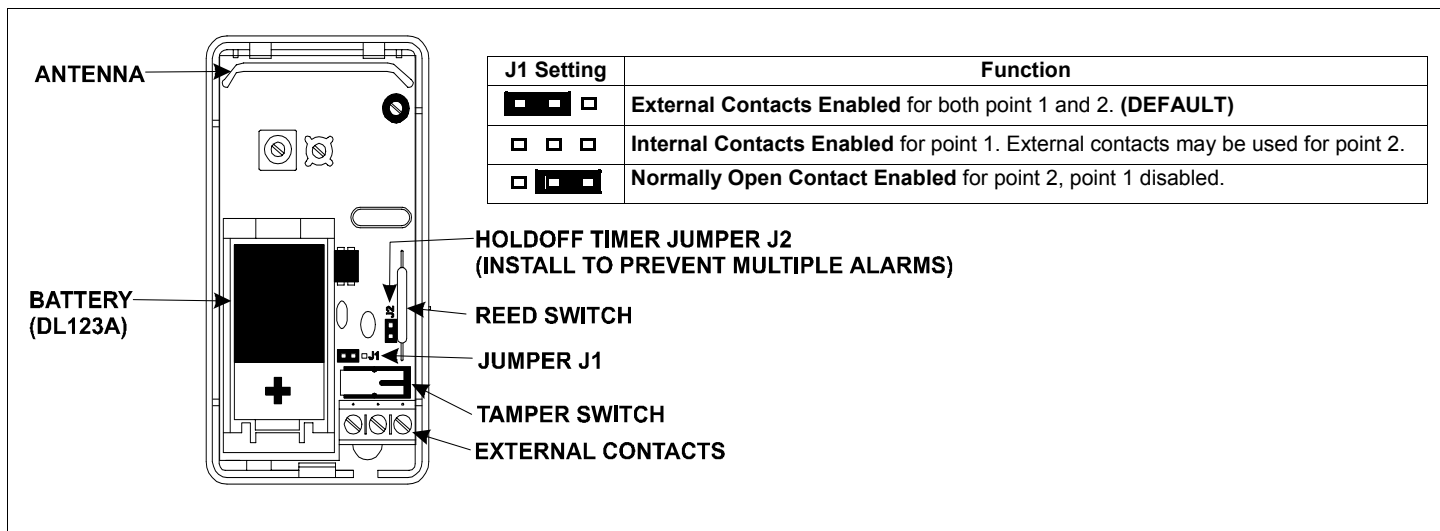

Fig. 4 Location of parts
3. **Identify transmitter parts.** Refer to Fig. 4.
9. **Complete transmitter setup.** Install Jumper J2 (see Fig. 4) to enable the holdoff timer (after triggering, unit waits 3 minutes before retriggering). For example, if used on doors in heavy traffic areas, this will prevent multiple alarms and thereby conserve battery life. **Note:** If J2 is installed, both points will be delayed 3 minutes before retriggering. If internal reed switch is used, remove Jumper J1 (see Fig. 4) and short Point-1 (Terminals 1-2). An external contact may be connected to point 2.